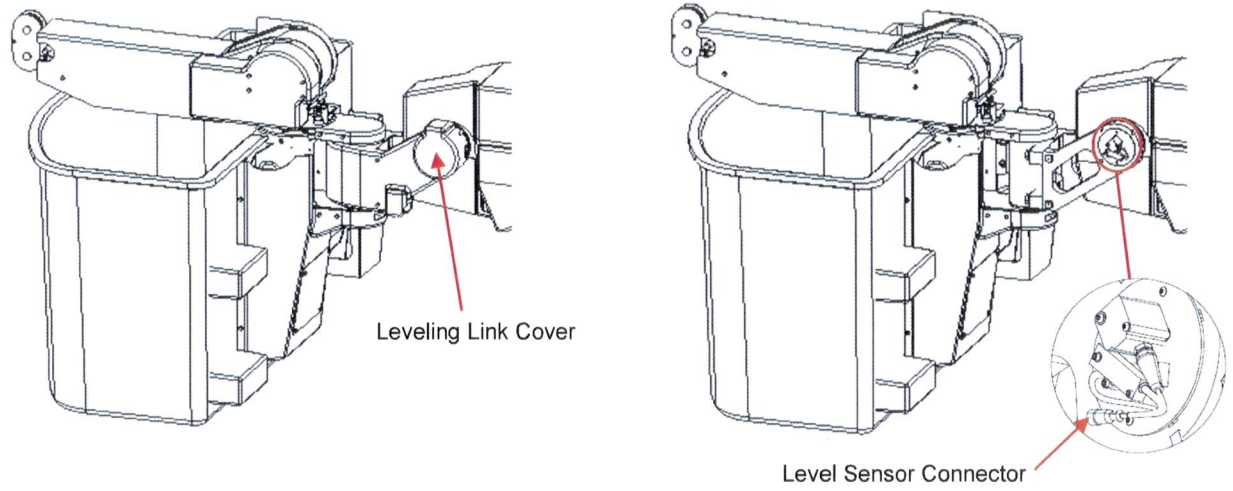

Figure 1. Remove Leveling Link Cover to inspect the power wire for the Level Sensor
3. Remove needed covers to verify that the power wire for the Level Sensor is securely connected to the sensor, is undamaged along its length, and routed so it cannot be pinched, see Figures 1 through 3 at the end of this bulletin as reference. Repair, replace, or re-route the power wire as required.